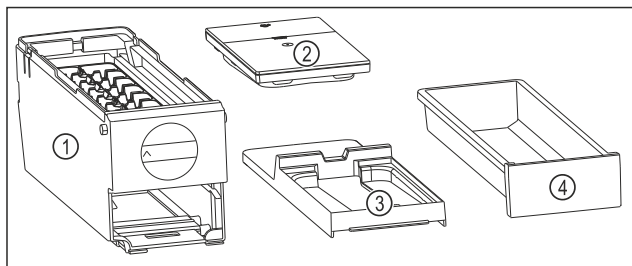

Fig. 85 Components of the EasyTwist-Ice
- EasyTwist-Ice is dismantled into four parts. (see Fig. 85)
- ▶ Only dismantle the EasyTwist-Ice into the components shown. (see Fig. 85)
- ▶ Clean the EasyTwist-Ice body Fig. 85 (1) as a whole.